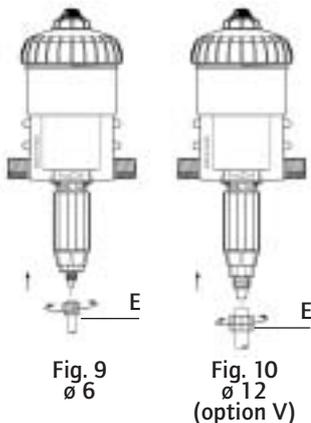

Fig. 9
- Unscrew the nut (Fig. 9-E) at the bottom of the injection assembly and put it over the hose.